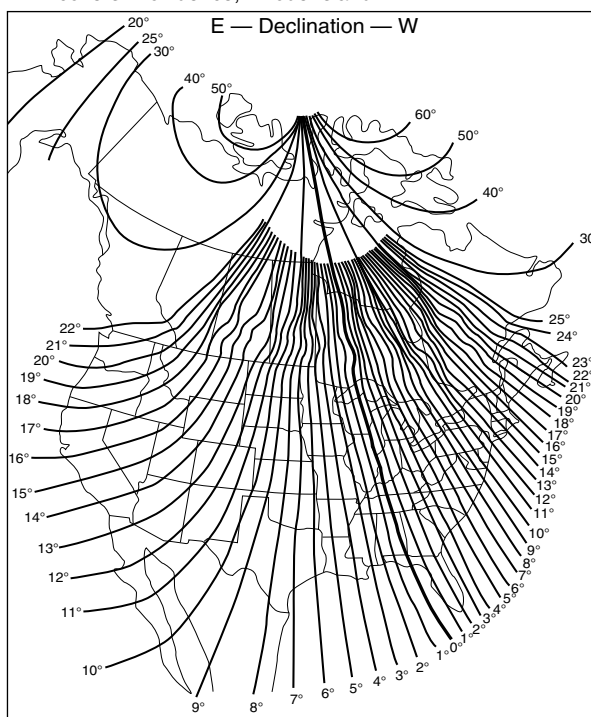

Fig. 15: Magnetic Declination Map.
1. First, determine the Magnetic Declination in your area using the Isogonic Chart (Fig. 15)